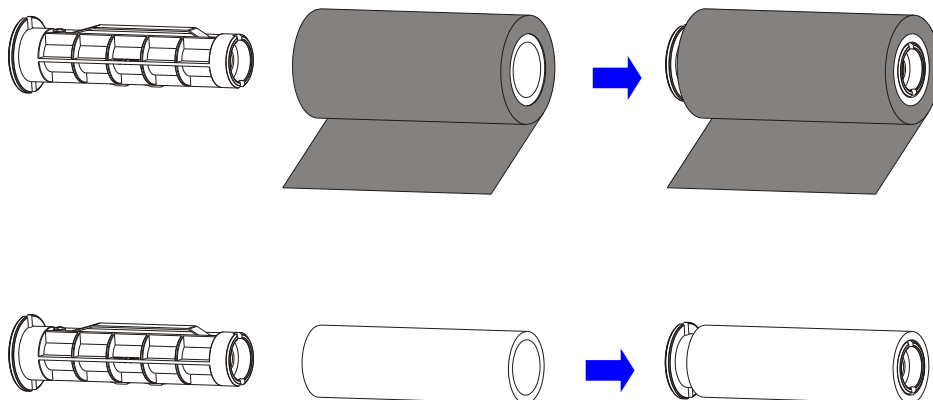

Figure 2-8 Place Ribbon Roll and Spare Core on Ribbon Spindles
4. Slide the ribbon roll onto one of the Ribbon Spindles and place the spare core onto the other spindle, see Figure 2-8. Make sure that the ribbon roll and the spare core are center aligned on the Ribbon Spindles.